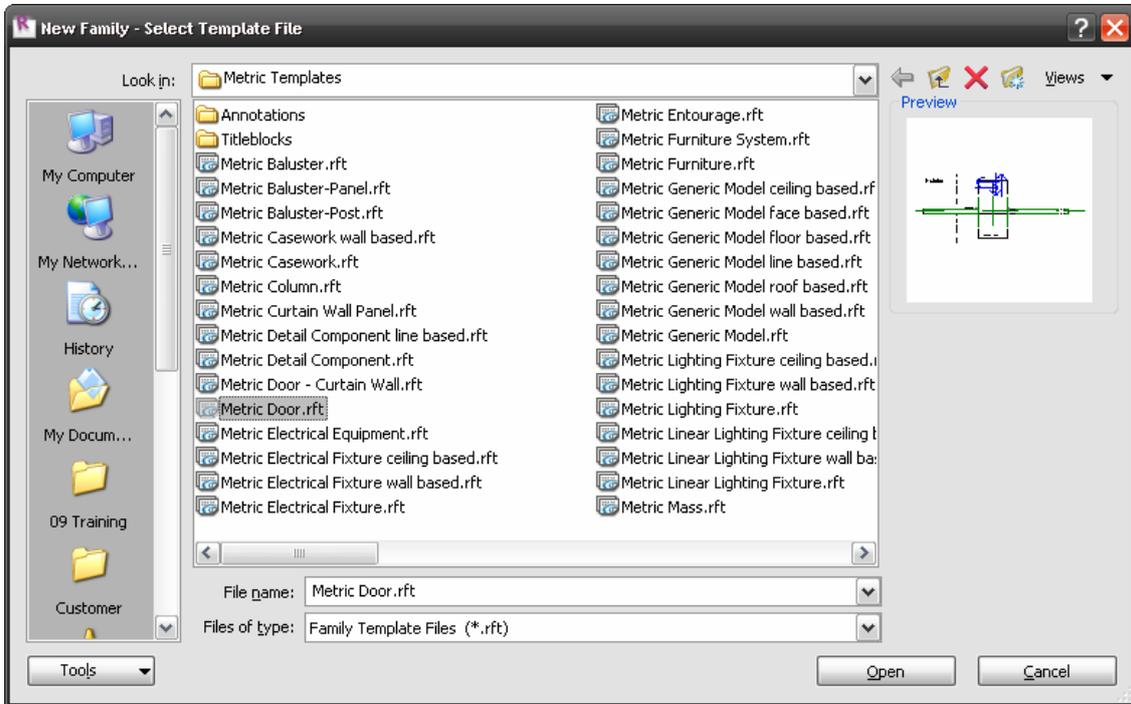

Fig 2.1
2.1.1 Step 1: Selecting the appropriate family template (Fig 2.1)